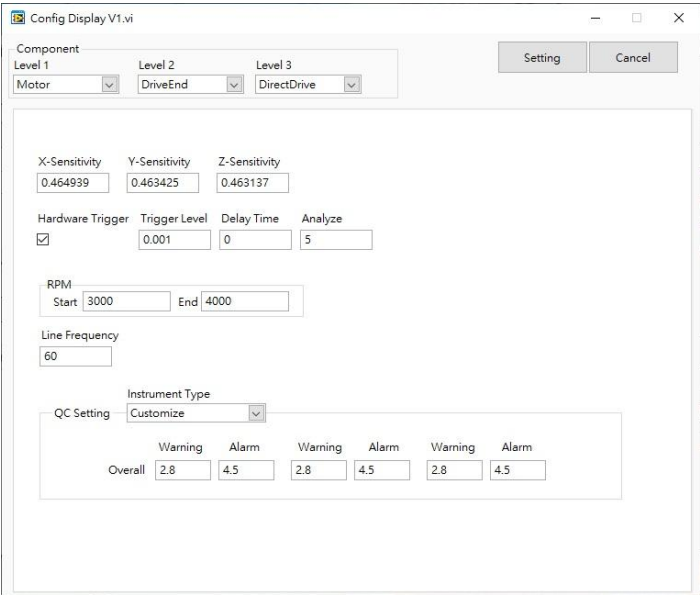

Figure2-32 Aurora Modbus Utility Motor.DriveEnd.DirectDrive Mode Analysis Parameter Settings Page
- RPM: Speed of rotating machinery; speed range must be set to accurately judge damage energy. Readings are Start 3000, End 4000, as shown in Figure2-32.
- Line Frequency: AC power frequency used; reading displays 60Hz, as shown in Figure2-32.
- Overall QC Setting: Tri-axial time-domain feature failure determination thresholds; readings for all three axes display Warning 2.8, Alarm 4.5, as shown in Figure2-32; if an equipment category defined in ISO-20816 is selected, the system will automatically populate QC, as shown in Figure2-34.